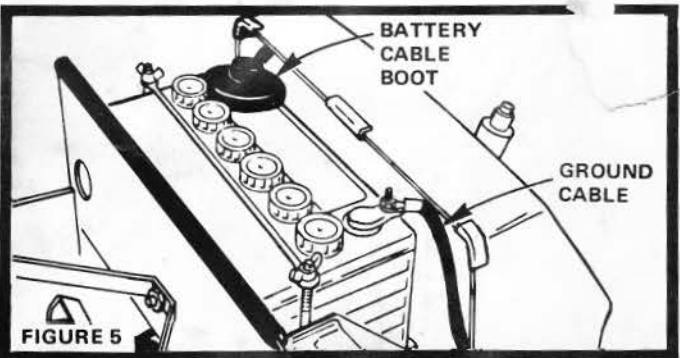

FIGURE 5
- f. Connect RED Battery Cable to Positive (+) Battery Terminal with Hex Nut (Fig. 5). Tighten Nut securely. Place Boot over Terminal.
- g. Connect BLACK Ground Cable to Negative (-) Battery Terminal with remaining Hex Nut (Fig. 5). Tighten Nut securely.